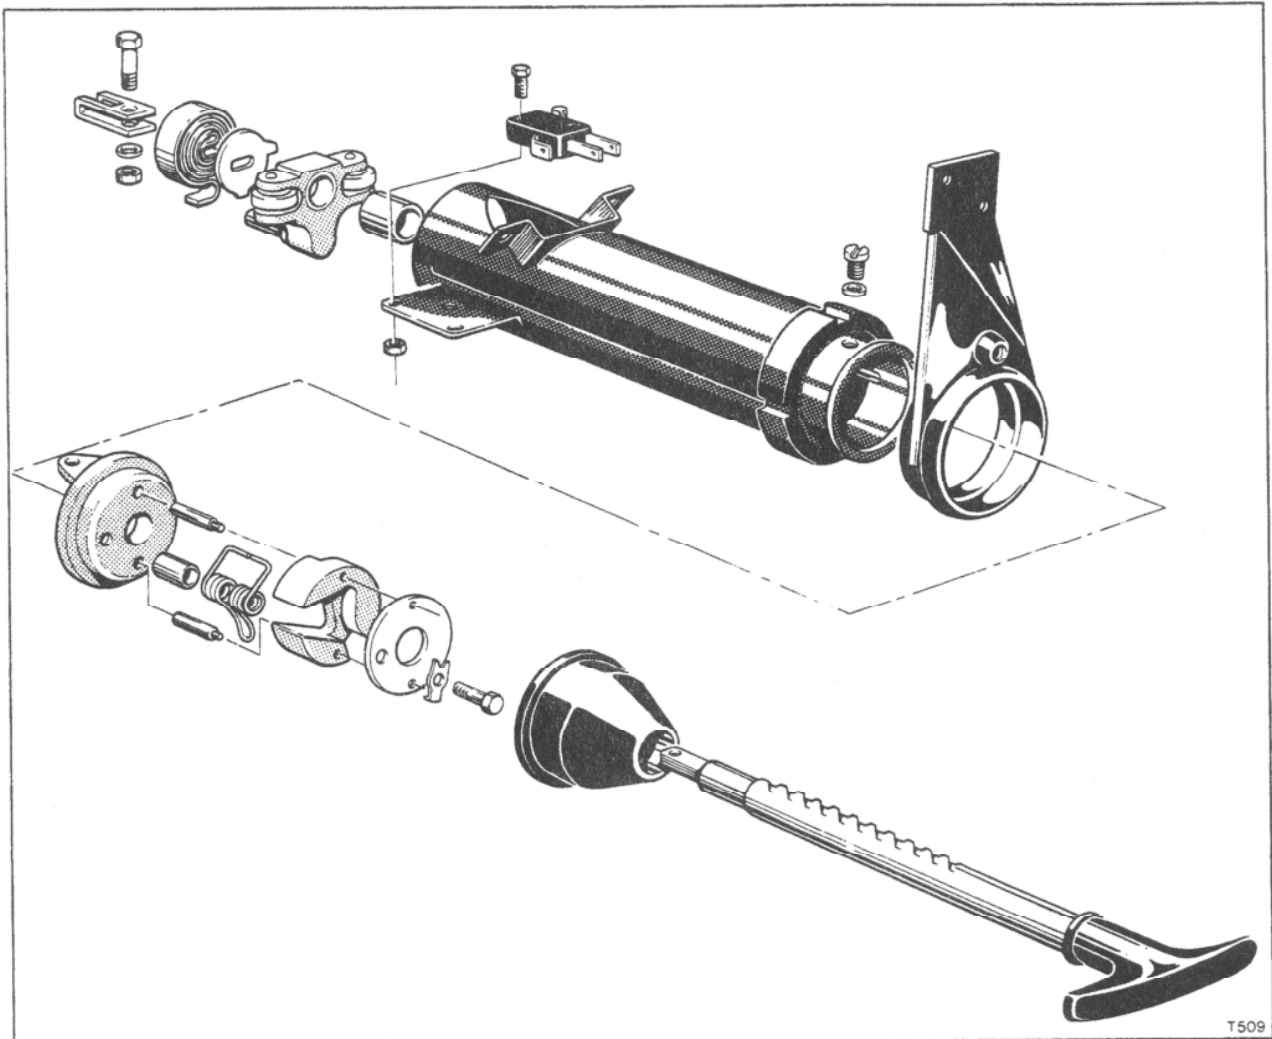

Fig. G41 Parking brake ratchet assembly (Right-hand drive cars)
1. The hand operating rod is spring loaded and must turn in a clockwise direction from the horizontal position to release the ratchet mechanism. For correct operation ensure that the coil spring and stop plate fitted below the roller assembly are as shown in Figure G41.